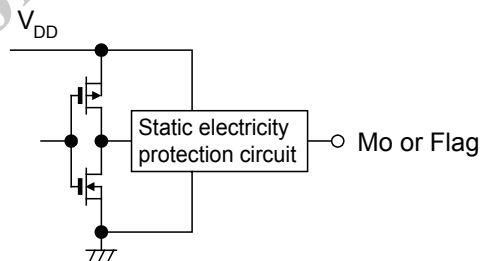

Figure 14. Mo pin and Flag pin general internal circuit layout
**Output Pins** The Mo and Flag output pins are designed as monitor outputs, and inside of the IC is an output inverter (see figure 14). Therefore, let these pins float if they are not used.